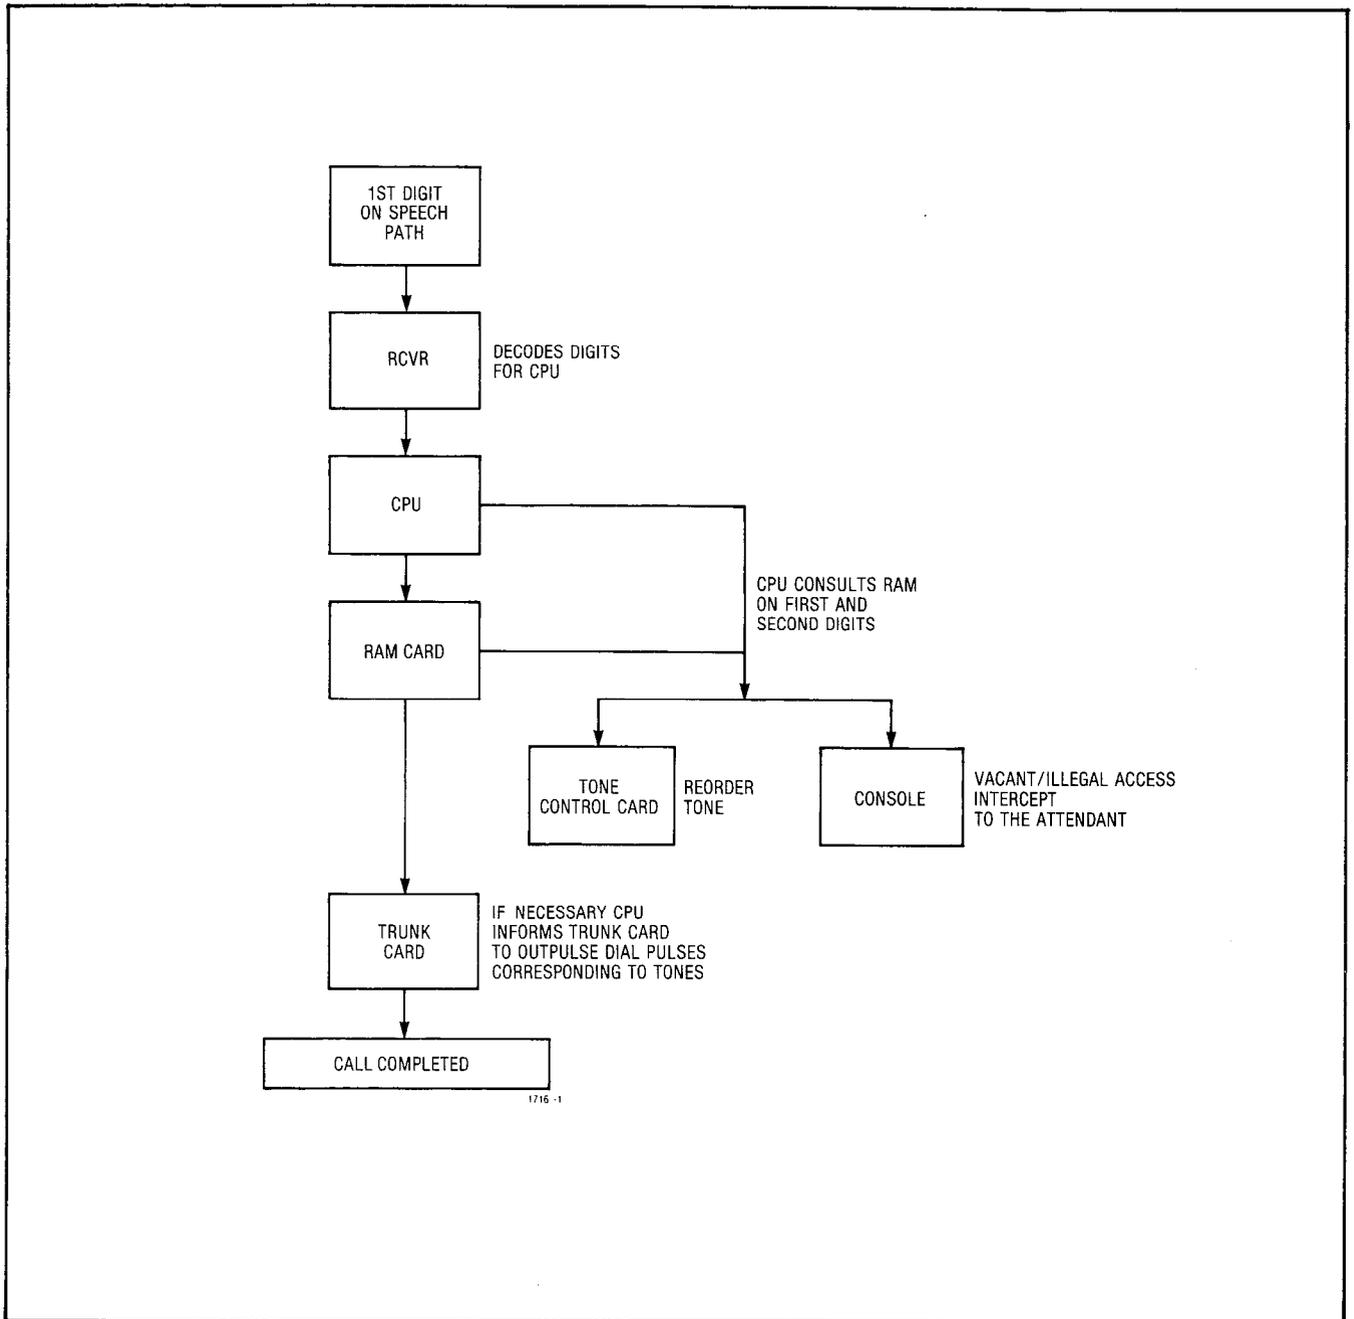

Fig. 5-4 Outside Call 0 and 1 Dialling Restriction
5.06 If the call is an outside call (Fig. 5-4) with digits, 0, 1, #, or * dialing restriction the extension must be assigned a speech path (paragraph 5.02). The CPU will then locate a free trunk corresponding to the access code dialed (see Section MITL9105/9110-98-205). If there is not a free trunk the CPU will connect busy tone (from the Tone Control card) to the speech path. The receiver will decode the first and second digit dialed into the trunk if System Option 155 (First Digit Toll Deny) is selected only the first digit is monitored on the trunk. The CPU will then decide if the digit that has been decoded is a 0, 1, #, or *. If it is, then reorder tone (from the Tone Control card) will be supplied to the speech path that the extension is assigned to and the trunk will be released. If the second digit is something other than a 0, 1, # or * the call will be allowed. The receiver will be dropped at this point if tone to pulse conversion is not required (see 5.03).